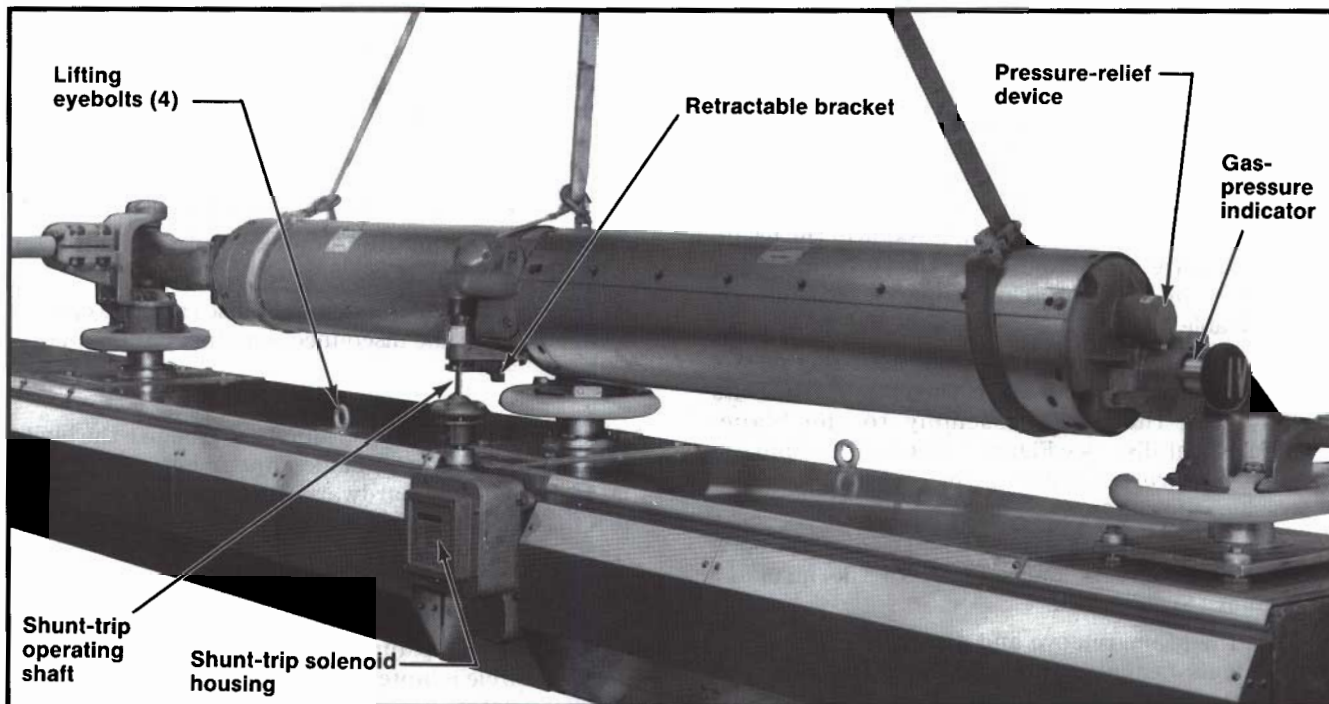

Figure 7. Lifting slings positioned for three-point support of the assembly consisting of disconnect blade, brain, and interrupters.
- (a) Attach lifting slings such that the assembly is supported at each end *and at the center*. See Figure 7. The lifting loads must be equalized so that no stress is placed at the brain end of either interrupter. Be sure that the slings do not interfere with the interrupter target on the side of the brain, the gas-pressure indicators, the pressure-relief devices, or the shunt-trip operating shaft (if applicable).